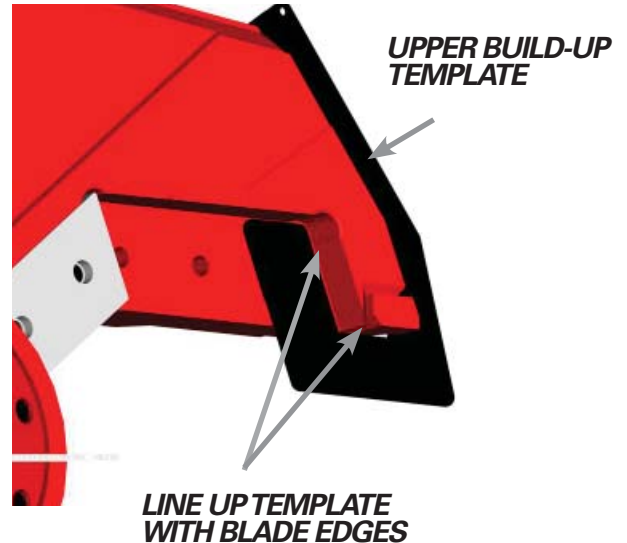

FIGURE 5-28
3. Use the build-up template provided by Stanley LaBounty to determine the amount of build-up needed on the front and bottom surfaces of the tip. Line up the template with the edges of the cutting blade and check the wear (see **Figure 5-28** on page 31).